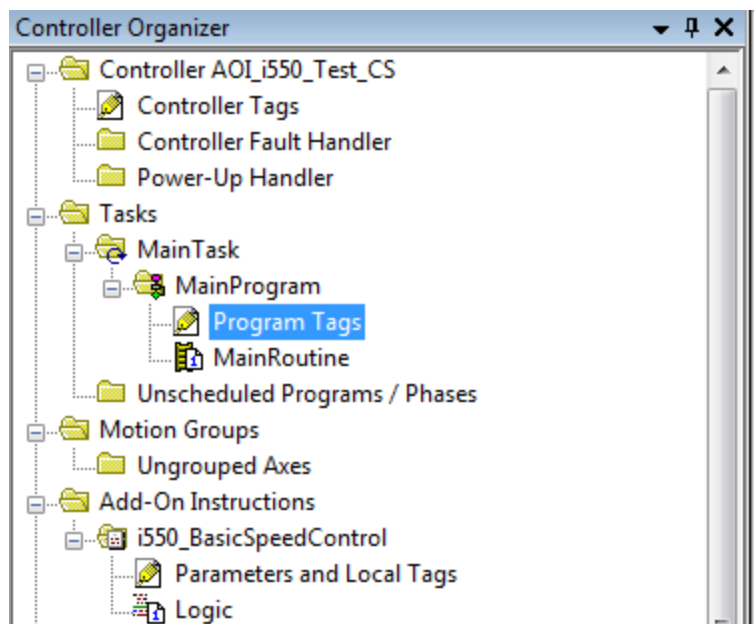

Figure 17: Program Tags
2) Define a tag as the *i550_ActuatorSpeed* AOI type (Figure17, Figure18).